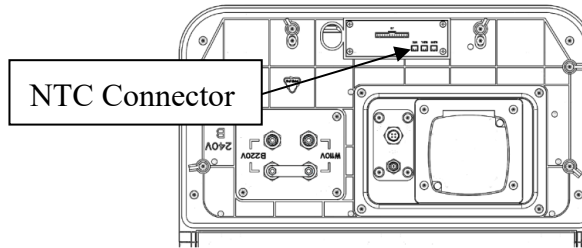

Figure 41 – NTC Connector
- Unplug the NTC connector (See Figure 41)